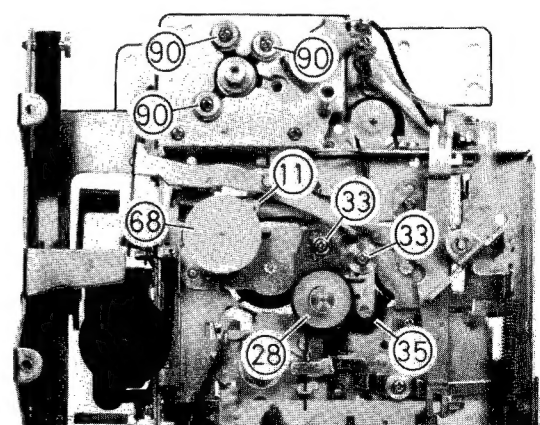

Fig. 23
I. FF Arm Ass'y (28) (Refer to Fig. 23)
J. Idler Ass'y (35) (Refer to Fig. 23)
K. Take-up Lever Ass'y (68) (Refer to Fig. 23)